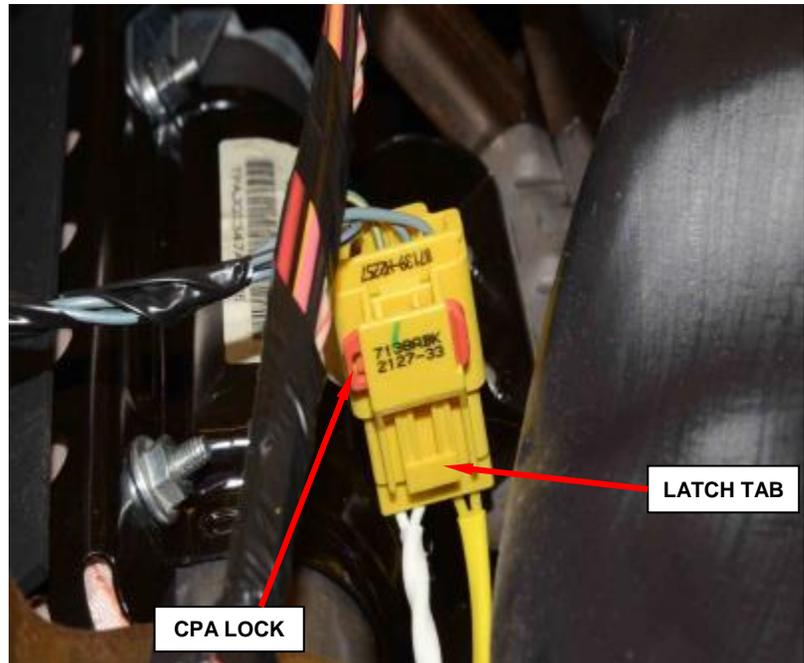

Figure 82 - Airbag Inflator Pigtail Connector
a. Slide the red Connector Position Assurance (CPA) lock on the connector toward the side of the connector (Figure 82).